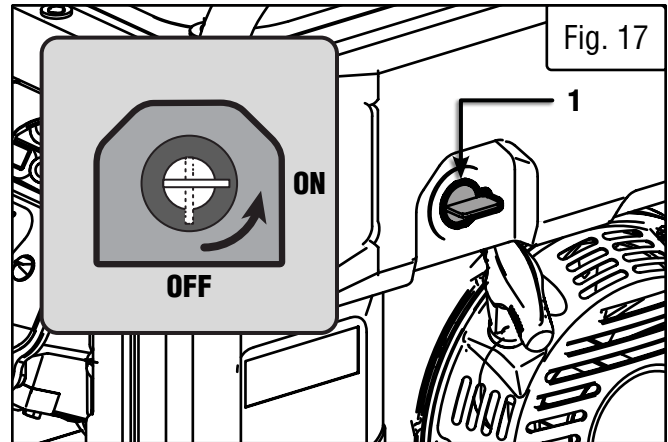

Fig. 17
1. Prepare an approved gasoline-storage container to collect the drained fuel. Place it near the fuel valve (Fig. 17 - 1).